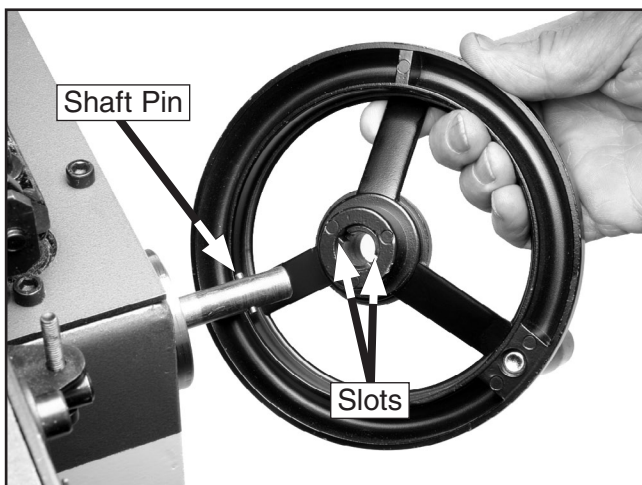

Figure 13. Installing handwheel.
2. Slide the handwheel over the shaft, making sure the shaft pin (**Figure 13**) inserts into the slots in the handwheel.